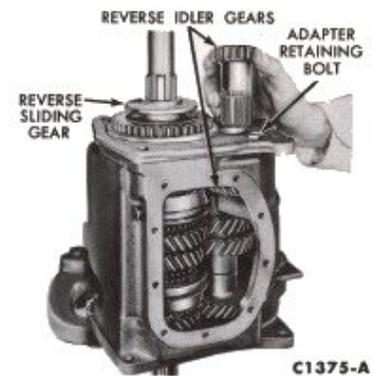

FIG. 9—Reverse Gear Rear Idler Removal
6. Lift the reverse gear rear idler (Fig. 9) from the case.
17. Install the reverse gear rear idler gear (Fig. 9).